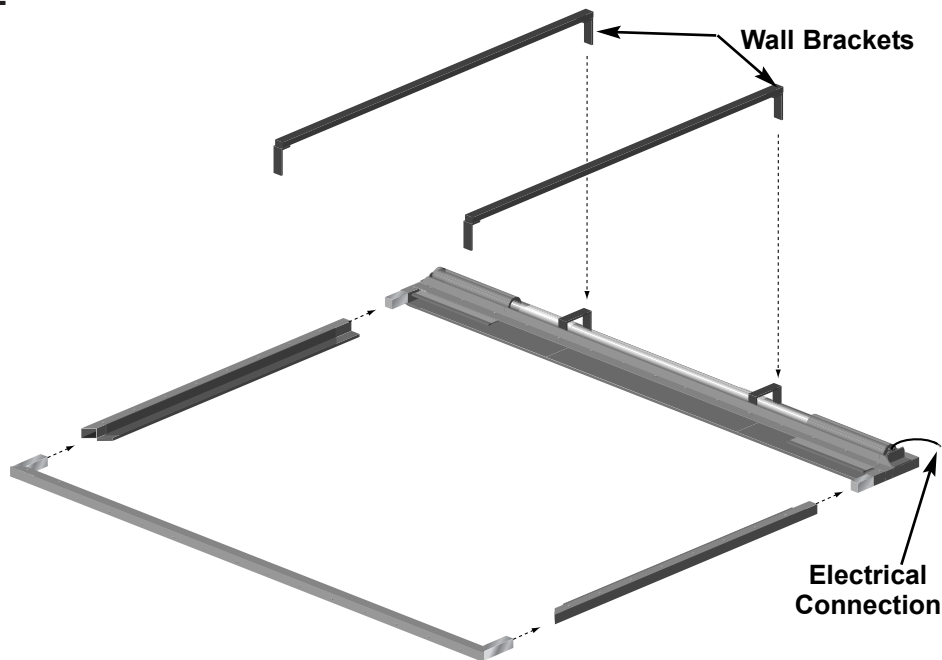

Figure 2: Assembling the frame
1. Connect the four pieces by matching the colored, numbered dots on the ends of the frame pieces. See Figure 2.